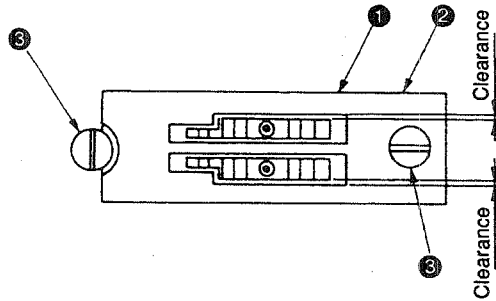
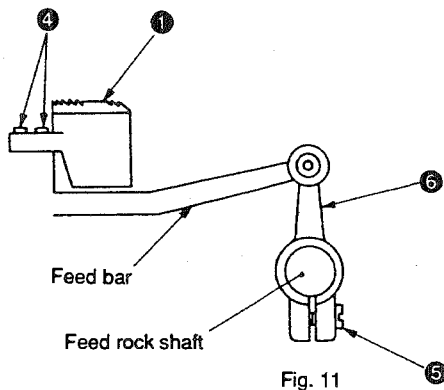
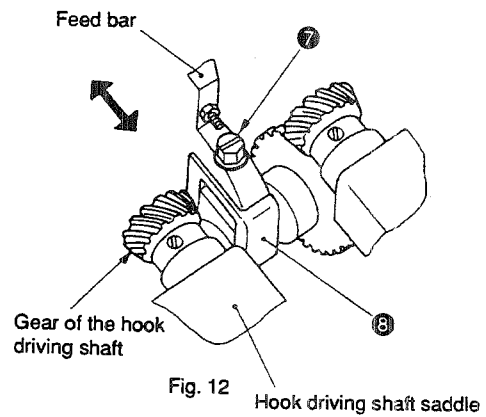

Fig. 9
Fig. 11
Fig. 12
<ul style="list-style-type: none"> ○ Position of the feed dog <ol style="list-style-type: none"> 1. Attach feed dog ① to the bed using screws ④. Attach throat plate ② to the bed using screws ③. 2. Loosen clamping screw ⑤ in the feed rocker in Fig. 11. Move feed rocker ⑥ in the axial direction to adjust so that respective feed dogs ① teeth are equidistantly spaced in feed dog slots ② in the throat plate as illustrated in Fig. 9. After the adjustment, tighten screw ⑤. 3. If the position of the feed dog is not properly adjusted by the procedure described above, suppose that feed dog ① has been attached with inclined. So, loosen screws ④, and adjust the inclination angle of the feed dog ① to "0." Then, tighten screws ④ and perform the aforementioned step 2). ○ Height of the feed dog <ol style="list-style-type: none"> 1. Set the stitch dial at "0" on the scale. 2. Turn the handwheel to bring feed dog ① to the position where it rises the most above throat plate ②. 3. Loosen screw ⑦ in Fig. 12, and move feed bar lifting fork up or down to adjust so that feed dog ① rises 0.9 to 1.1 mm above the top surface of throat plate ②. Then, tighten screw ⑦. <p>(Caution) 1. After the adjustment, the needle entry point in the needle slot in the feed dog may change.</p>	<p>When the feed dog is positioned too high:</p> <ul style="list-style-type: none"> ○ The feed dog will come in contact with the throat plate. ○ The stitch length will be larger than the value indicated by the scale on the stitch dial. ○ Thread trimming failure will occur. <p>When the feed dog is positioned too low:</p> <ul style="list-style-type: none"> ○ The stitch length will be smaller than the value indicated by the scale on the stitch dial. ○ The moving knife will come in contact with the feed dog at the time of thread trimming resulting thread trimming failure.